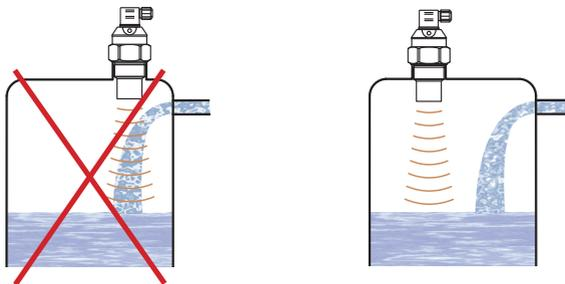

Fig. 7: Level meter installation outside the influence of filling circulation
- Do not install the level meter in or above the **filling** point. (Fig. 7).